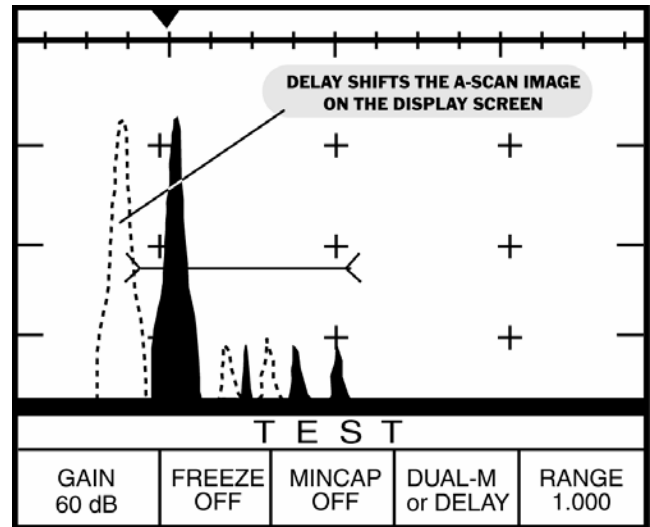

FIGURE 4-12—The A-scan on the right demonstrates ability to move desired echoes to trigger the gate(s) for the proper thickness measurement.
The DELAY feature adjusts the left-to-right position of the echo signals (returning sound pulses) in the A-scan display. This adjustment is sometimes used to account for the effects of signals (noise) in the initial sound pulse. This isn't an often-encountered problem. A typical application of the DELAY command is shown in the two A-scans in Figure 4-12.
Step 3: Press  below the selection titled DELAY. You'll note that the A-scan displayed will move to the left or right (Figure 4-12).